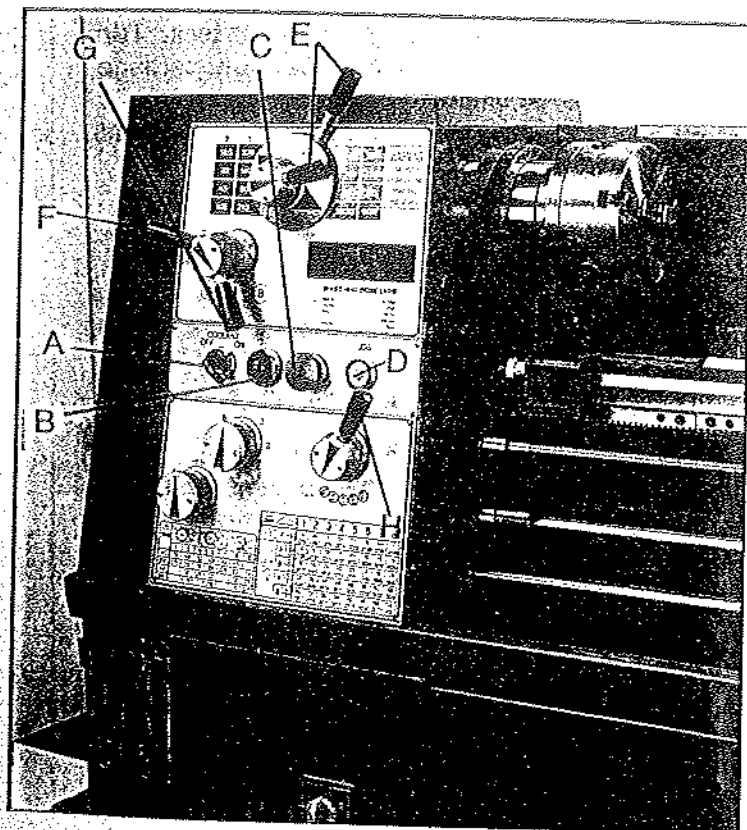

Fig. 10
A. Coolant On-Off Switch (A, Fig. 10) - turns coolant pump on and off.
B. Power Indicator Light (B, Fig. 10) - lit whenever lathe has power.
C. Emergency Stop Switch (C, Fig. 10) - depress to stop all machine functions. (Caution: lathe will still have power). Twist to re-set.
D. Jog Switch (D, Fig. 10) - depress and release to advance spindle momentarily.
2. Headstock Gear Change Levers (E, Fig. 10) - located on front of headstock at the top. Move levers left or right to desired spindle speed.
3. Leadscrew/Feedrod Directional Lever - (F, Fig. 10) - located on front of headstock. Moving the lever up causes carriage travel toward the tailstock. Moving the lever down causes carriage travel toward the headstock. Do not move lever while machine is running.
4. Feed/Lead Selector Lever (G, Fig. 10) -located on the front of the headstock at the top. Used whenever setting up for threading or feeding. Caution: in the "A" position, never run the lathe higher than 770 RPM.
5. Feed/Lead Selector Lever (H, Fig. 10) - located on the front lower right corner of the headstock. Used in setting up for feeding and threading. Positions "F" and "D" are for the feed rod. Positions "E" and "C" are for the feed screw. Position "0" is neutral.